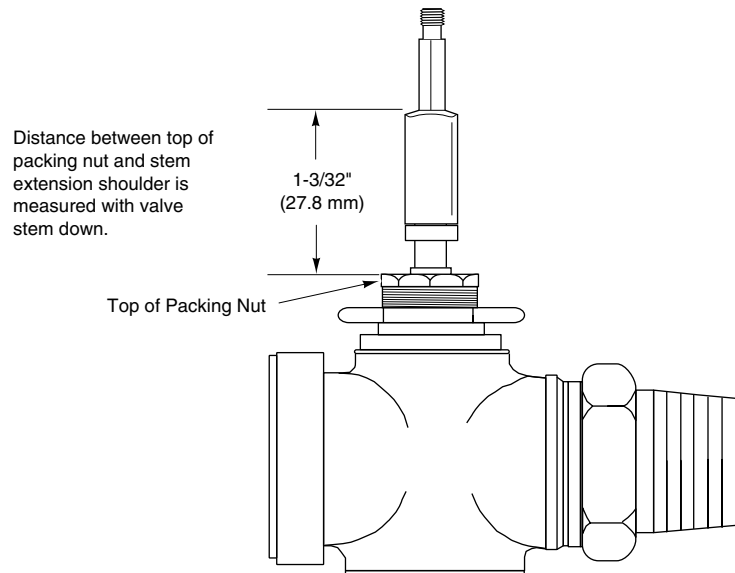

Figure-8 Valve and Stem Extension Assembly.
9. Screw the stem extension onto the valve stem. Adjust the height of the stem extension to 1-3/32" (27.8 mm). This dimension is the distance from the top of the packing nut to the shoulder of the stem extension. Refer to Figure-8 and the General Instructions for the actuator. See Applicable Literature on Page-1.